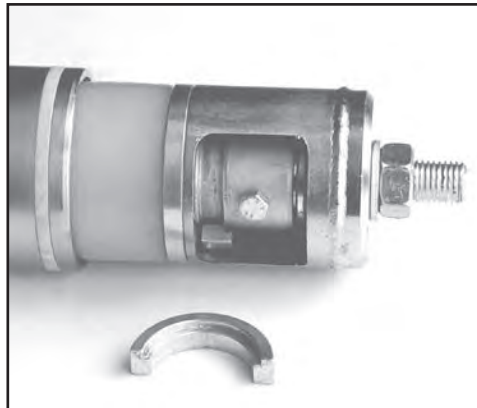

FIG. 62: REMOVE SEGMENTED RINGS
11. Tighten the screw of the control tube end so that the elastic block is compressed and both halves of the segmented rings can be taken out (see Fig. 62).